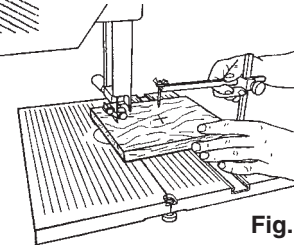

Fig. 24
13. Set the distance of the circle's radius by measuring from the inside blade tooth to the tip of the center pin. Adjust the horizontal cutter arm until you reach the proper distance, tighten the knob, then use the 1/8" Allen wrench to tighten the setscrew (11). See Fig. 24.